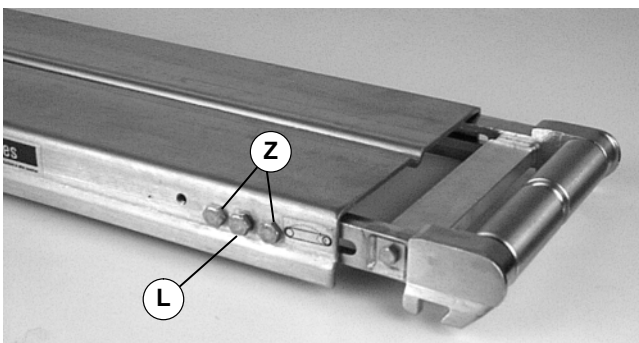

Figure 17
3. Remove pinion lock screw (L of Figure 17).
4. Remove four (4) tail plate mounting screws (Z of Figures 17 & 18).